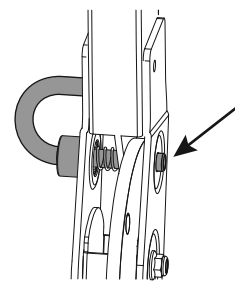

Figure 6
**Note:** See properly seated (fully engaged) ROPS pin in Figure 6.